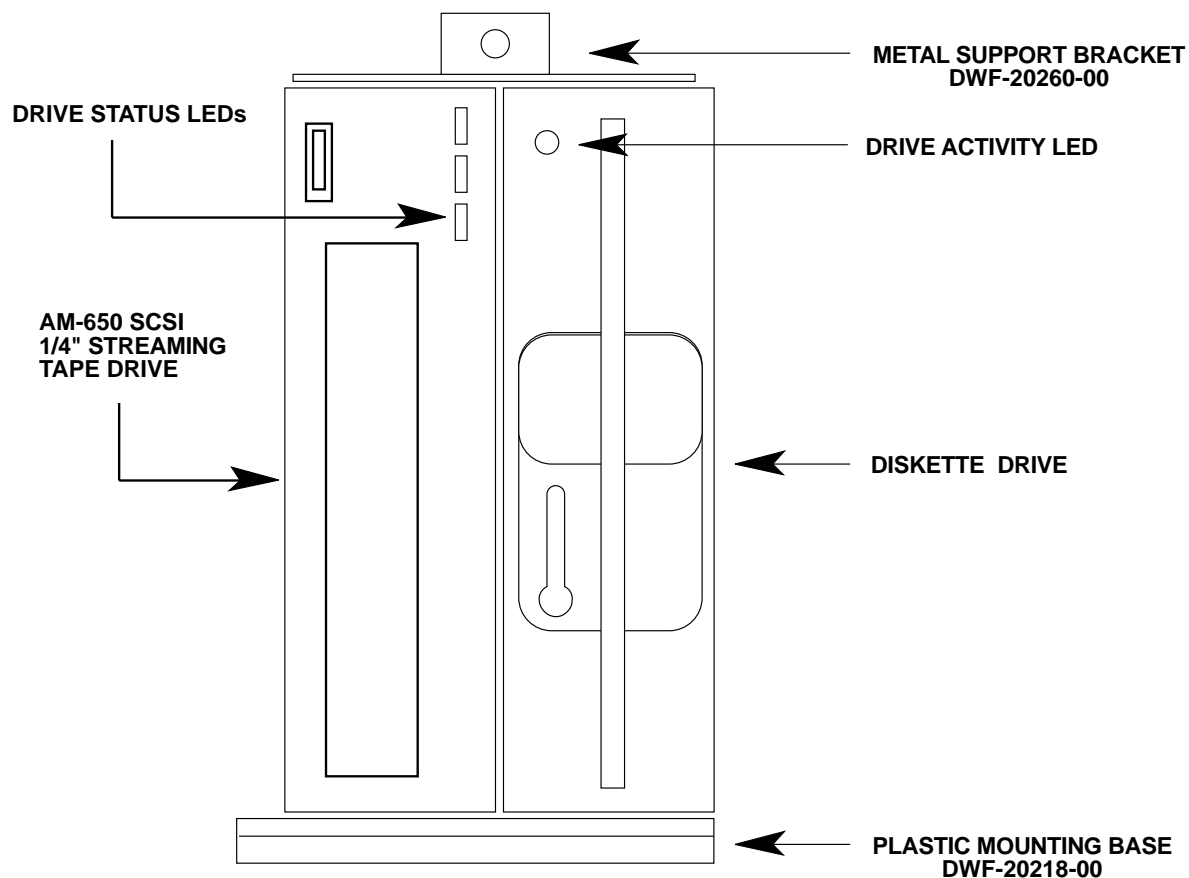
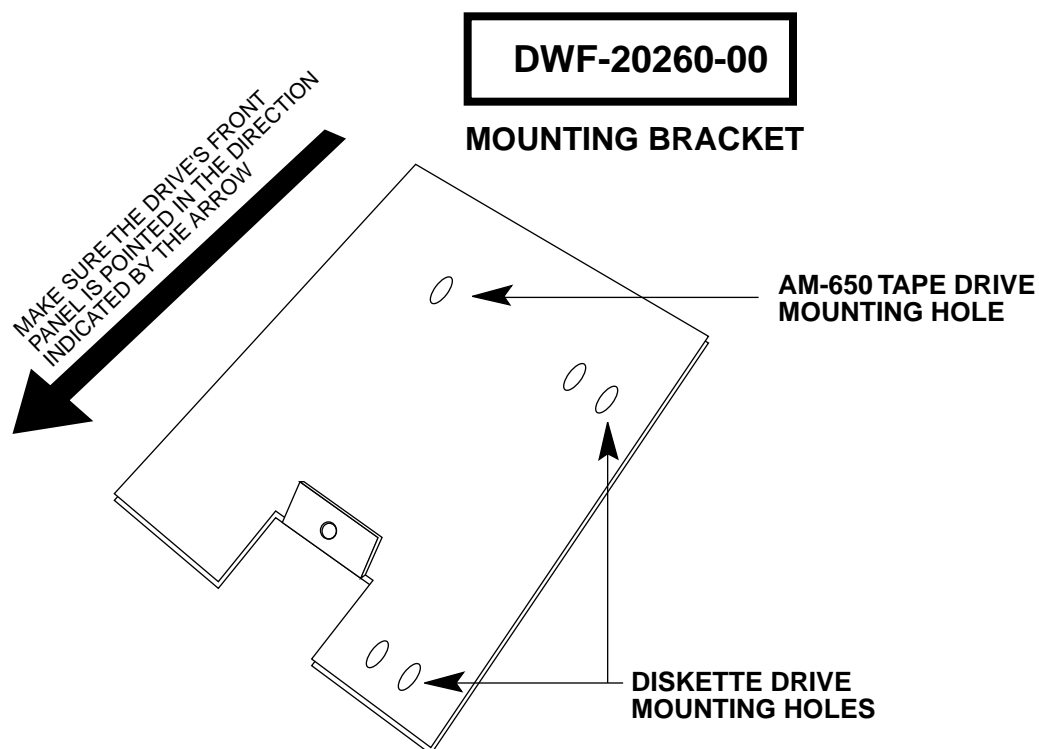

Figure 3 - Tape Drive Mounting Assembly
Figure 5 - Metal Support Bracket
1. Set the drive on top of the plastic mounting base with its status LEDs away from the plastic mounting base. This insures the drive is in its proper position for both pedestal and rack mount computers. See Figure 3.
3. Install the two screws (included in the mounting kit) that hold the plastic mounting base to the drive. If you are installing a diskette drive or another tape drive along with your AM-650, mount this drive next to the AM-650, as shown in Figure 3.
5. Set the metal support bracket on top of the drive assembly as shown in Figure 3. Position the bracket so the mounting hole shown in Figure 5 aligns with the screw hole on the side of the AM-650, and the screw hole to attach the drive assembly to the front bezel aligns with the screw hole in the front bezel.